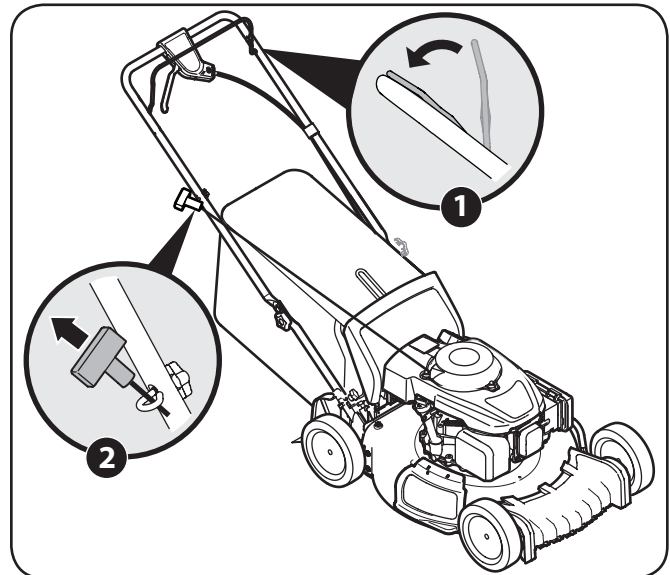

Figure 5-1
1. Standing behind the mower, depress the blade control and hold it against the upper handle. See Figure 5-1.